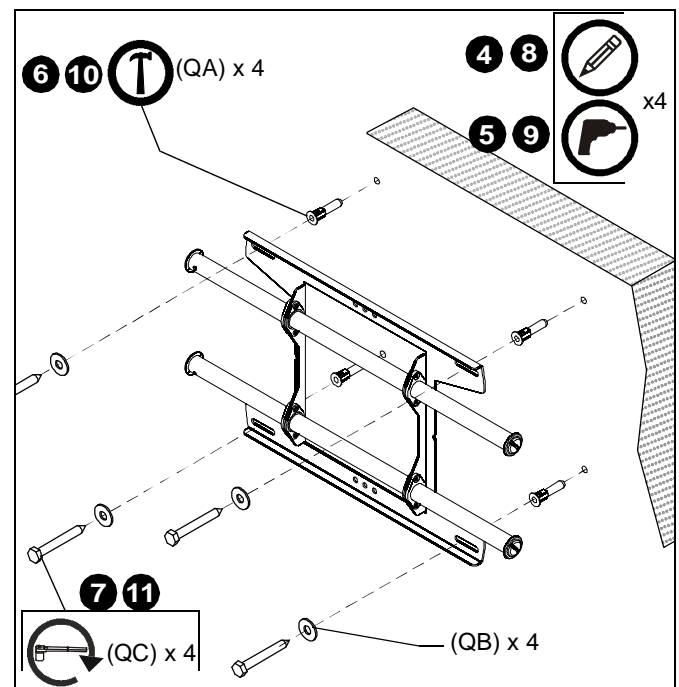

Figure 4
4. Using a level, mark the wall through both upper mounting slots. (See Figure 4)
6. Install an anchor (QA) into each pilot hole using a hammer.
7. Use two 5/16 x 2-1/2" lag bolts (QC) and two 5/16" flat washers (QB) to attach top of mount to anchors in wall.
8. Mark the attachment points for the lower mounting slots. (See Figure 4)
9. Drill one 5/16" (7.9mm) pilot hole at each marking for lower mounting holes. (See Figure 4)
10. Install an anchor (QA) into each pilot hole using a hammer.
11. Use two 5/16 x 2-1/2" lag bolts (QC) and two 5/16" flat washers (QB) to attach the mount to the wall through the lower mounting holes. (See Figure 4)
1. Align the center of the bracket with center of screen. (See Figure 4)